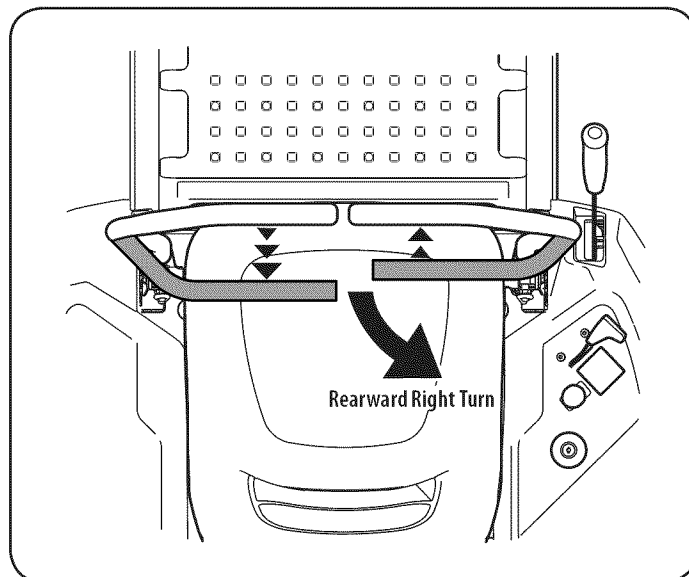

Figure 18
3. To turn to the right while traveling in reverse, move the right drive control lever forward of the left lever. See Figure 18.